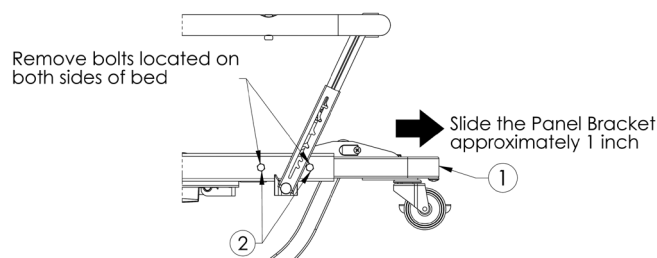

Figure 13
2. Locate the bolts on either side of the bed (Figure 13). Remove bolts from both sides of the bed (4 bolts).
3. Locate the battery patch cable (Detail A). Ensure that there is enough loose cable to allow you to move the panel mount bracket out approximately 1-inch (Figure 13)